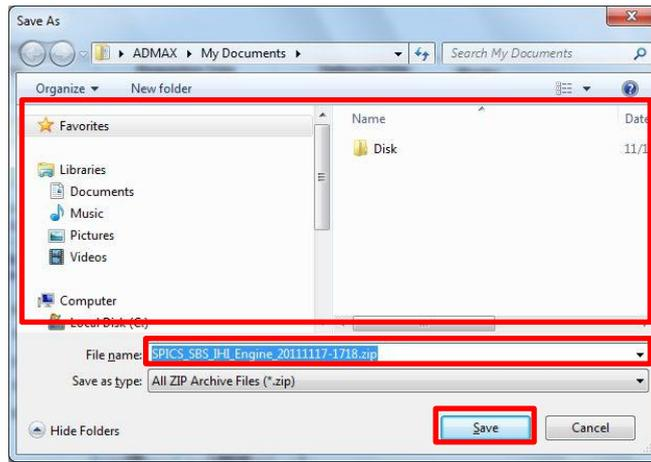

Fig 6.8 Save As
18. Select [OK] button. "Save File Screen"(Fig.6-8) is displayed.